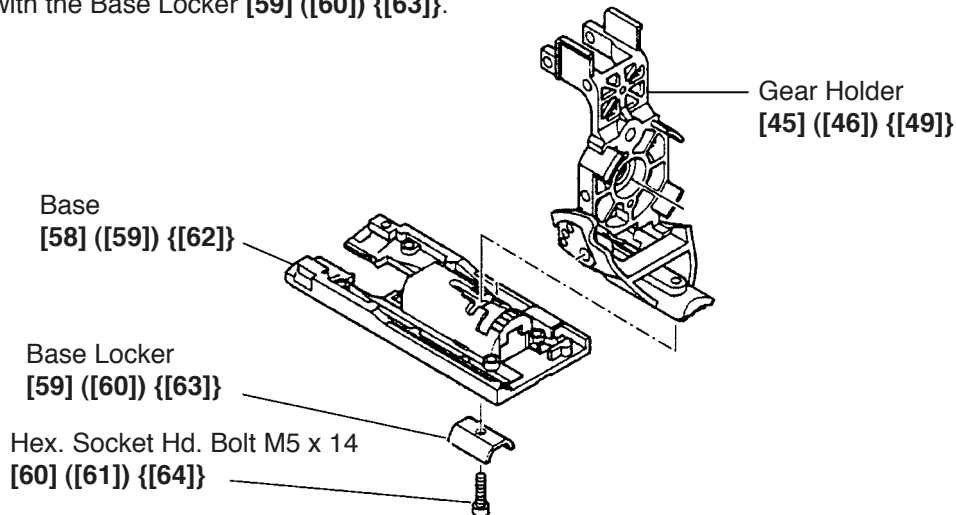

Fig. 2
(1) Disassembly of the Base **[58]** **([59])** **{[62]}** (Fig. 2)